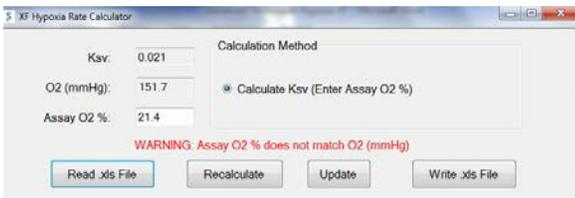

Figure 5. Warning message.
3. Browse to the XF data file and open it. The Calculator will display a warning (Figure 5).